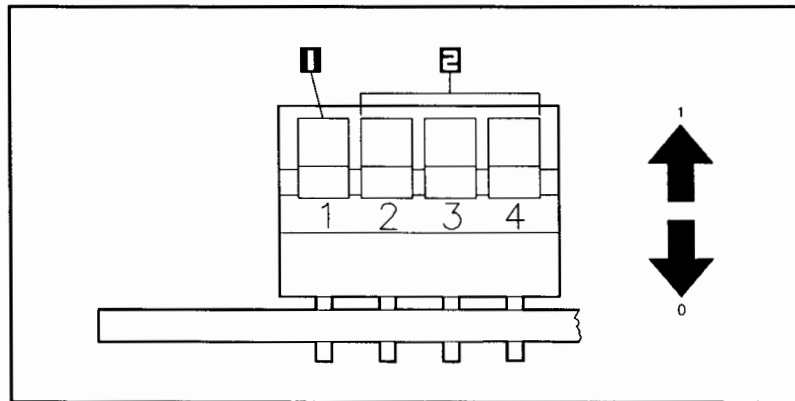

Figure 2-9. HP-FL Address Switch
4. Make sure diagnostic segment 1 of the address switch is set to the normal position (0). See Figure 2-9.
7. Switch the disk storage system power on by setting the LINE+ switch to the 1 (ON) position.
6. Set the address switch to the desired HP-FL address. See Figure 2-9.
- g. Set the address switch to the desired HP-FL address. See Figure 2-9.
- d. Set the address switch to the desired HP-FL address. See Figure 2-9.